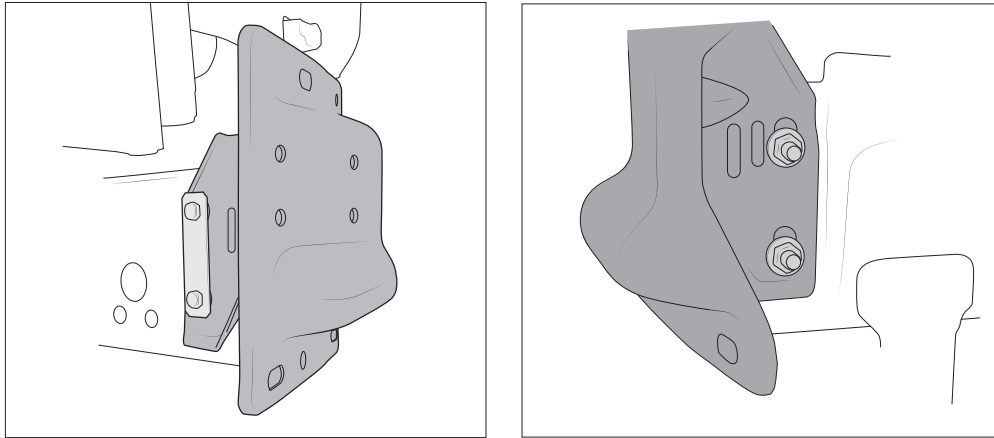

Figure 12
17. Remove the remaining bumper brackets and **save hardware** (fig. 12).